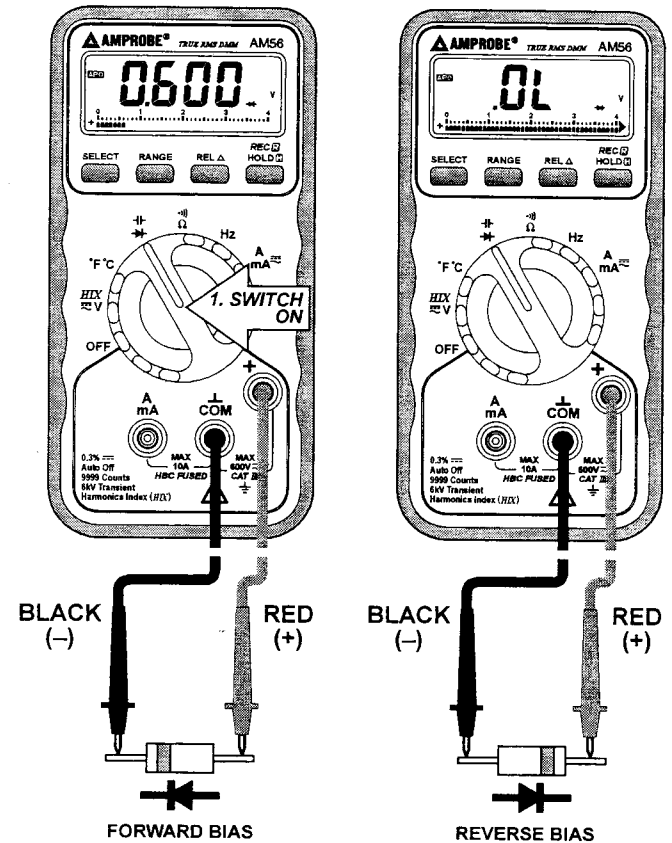

FIG 5. ✚ DIODE TEST FUNCTION
- 3) Connect the test leads as shown in **FIG 5** and observe the digital display